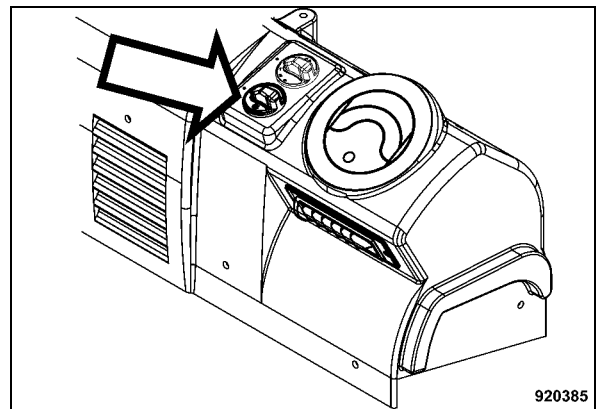

Fig. 147
- Choose a cooling temperature with the rotary switch for the air conditioning system (Fig. 147) in the blue section.